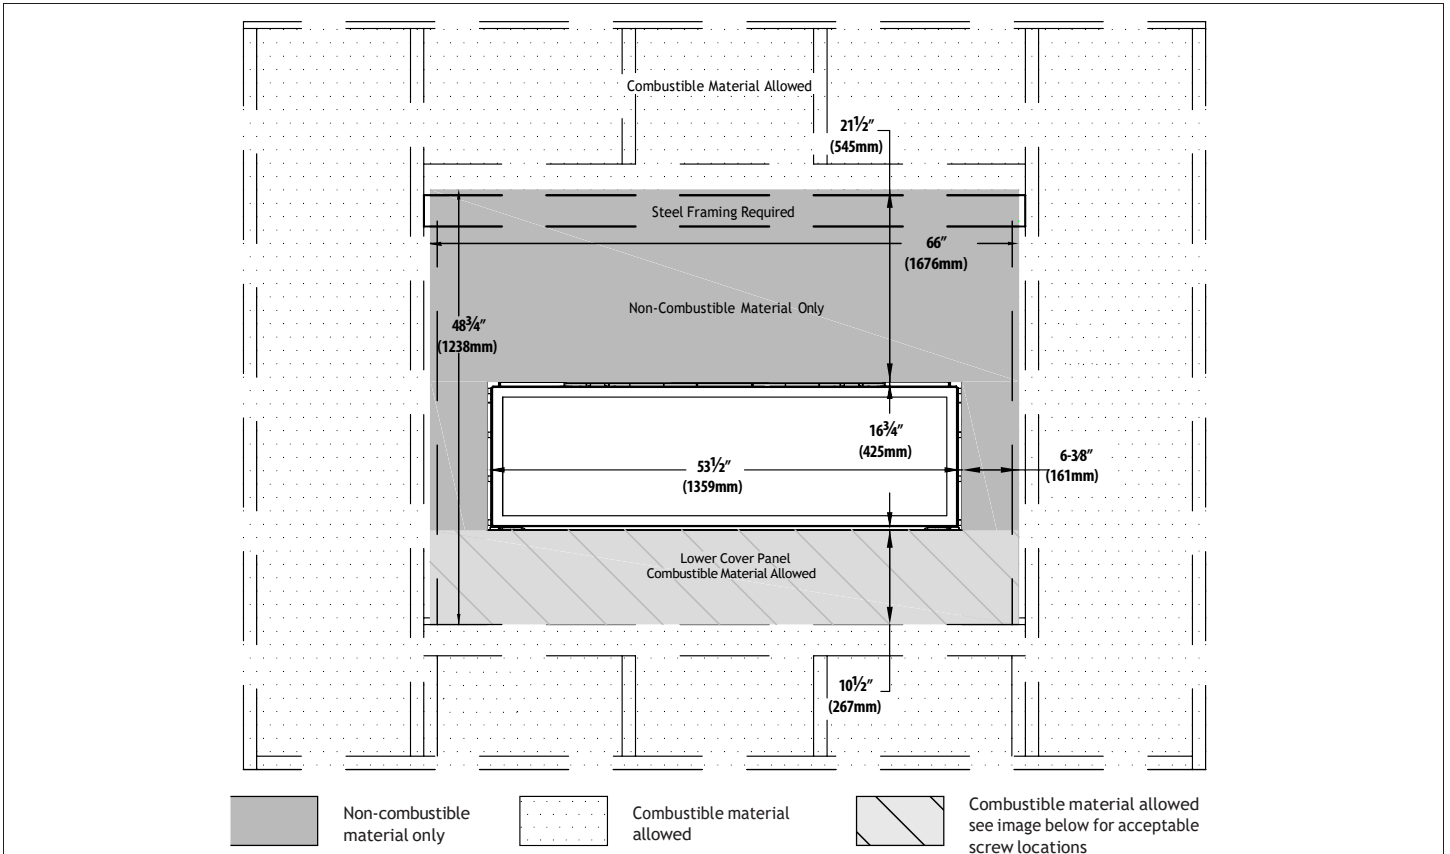
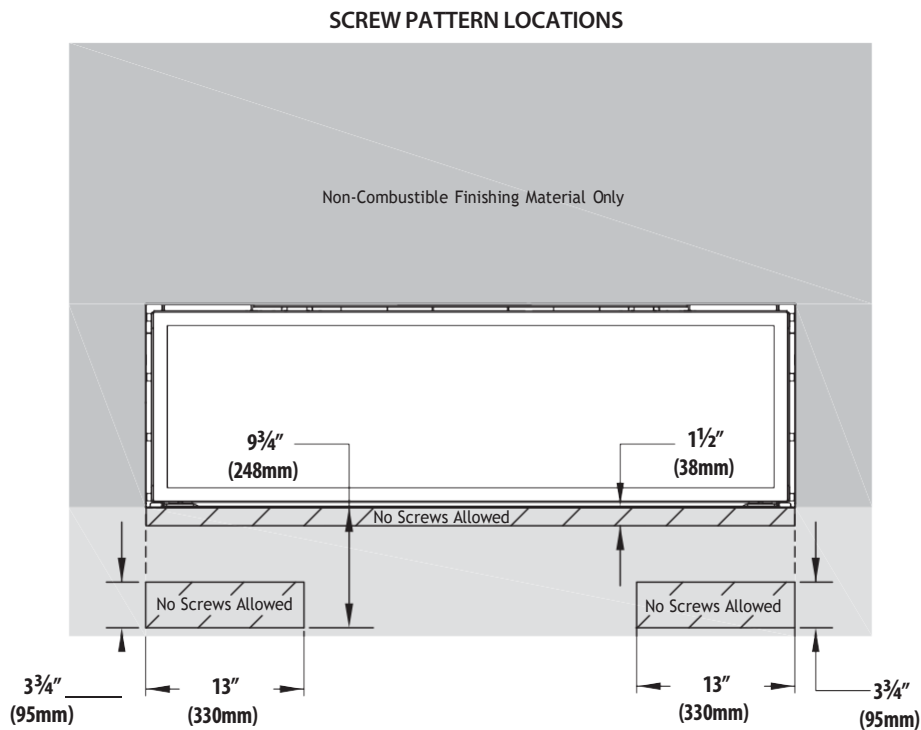

Figure 4.3, Minimum Non-Combustible Finishing Dimensions for all installations
Figure 4.4, Minimum Non-Combustible Finishing Dimensions Screw Locations for all installations
- Non-combustible material is required at the top and sides of the fireplace. This fireplace is designed to accommodate non-combustible facing material up to 3/4" (19mm) thick. See Figure 4.3 and Figure 4.4 on page 34 for facing and finishing material dimensions.
- It is acceptable to pre-drill holes and to use self-tapping screws prior to attach the non-combustible material to the top and sides of the fireplace face. Do not use excessively long screws. Screws can only penetrate the fireplace outer shell up to 1/2" (13mm) in the allowed areas. See Figure 4.3 and Figure 4.4 on page 34.
3. Do not use any screws above the framing when installing the bottom panel to avoid damaging any of the gas and electrical components located behind the panel. Refer to Figure 4.4 on page 34 for maintaining the required areas.
- Non-combustible material is required at the top and sides of this fireplace. This fireplace is designed to accommodate non-combustible facing material up to 3/4" (19mm) thick. See *Figure 4.3* and *Figure 4.4* on page 34.
- It is acceptable to pre-drill holes and to use self-tapping screws prior to attaching the non-combustible material to the top and sides of the fireplace face, screws can only penetrate the fireplace outer shell up to 1/2" (13mm) in the allowed areas. See *Figure 4.4* on page 34.
- This combustible material goes on any required non-combustible materials as shown in *Figure 4.3* and *Figure 4.4* on page 34.